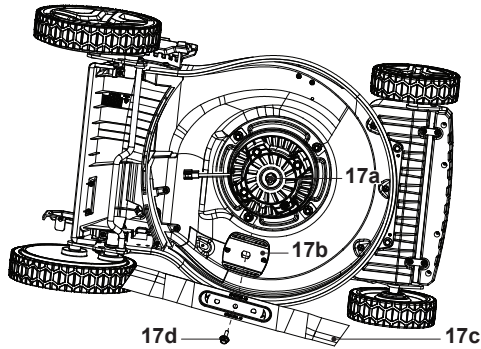

Fig. 21
1. Keep the underbody and cutting blade (17c) clean and free of debris. Remove clippings from the rear discharge chute (21).
5. Replace the cutting blade (17c) with a new one of the same type. Check the status of blade holder (17b) onto the spindle (17a) firstly, then attach the cutting blade (17c) to the blade holder (17b) by aligning it with the correct semi-circle patterns, fit the hex bolt with washers (17d) properly to secure the connection. Tighten the hex bolt (17d) clockwise with 25 Nm min, 35 Nm max. to ensure safe operation of your product (Fig. 21).